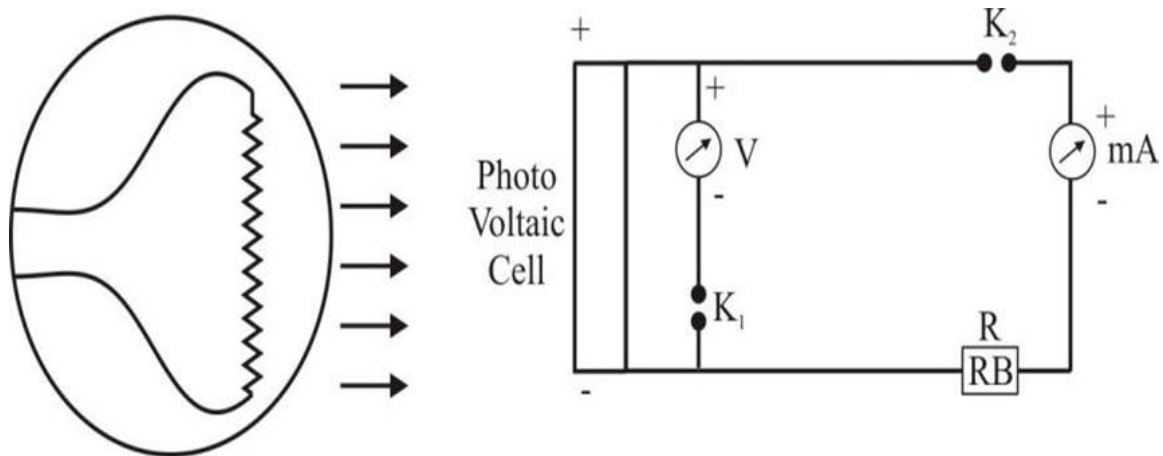

Figure 3.1 Circuit diagram of solar cell
- The connections of the solar cell are as shown in the Figure 3.1. The resistance is set at the minimum. the incandescent lamp is connected with its power supply.